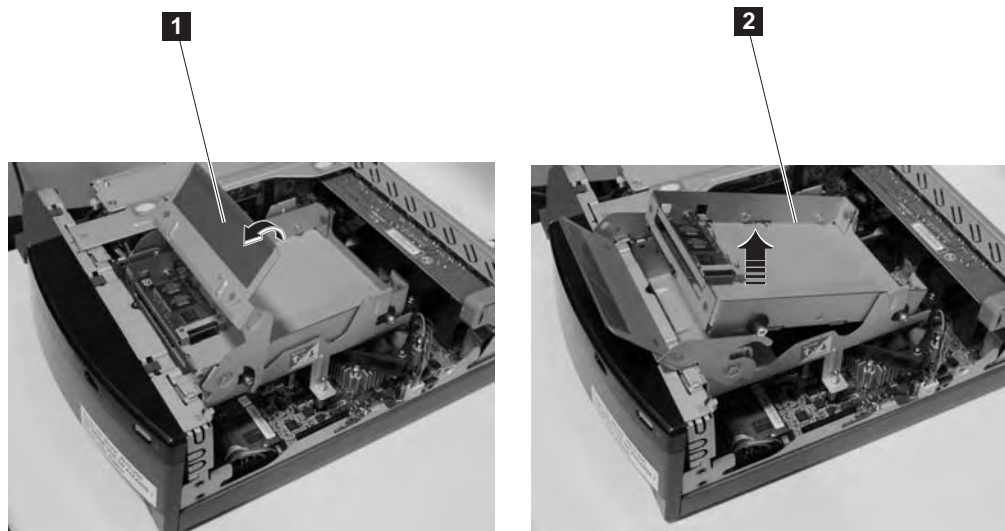

Figure 14. Removing the solid state drive
2. Rotate the solid state drive retainer **1** to the fully open position, as shown by the arrow in Figure 14.